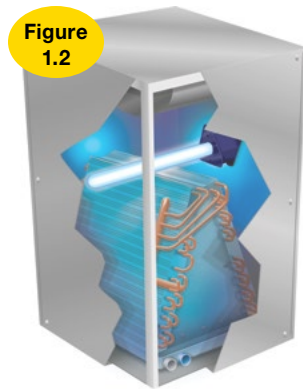

Figure 1.2
STEP 2: Using either the integrated magnet or supplied hardware, secure the Scorpion to the side wall of the unit above the coil. See figure 1.2 for example.